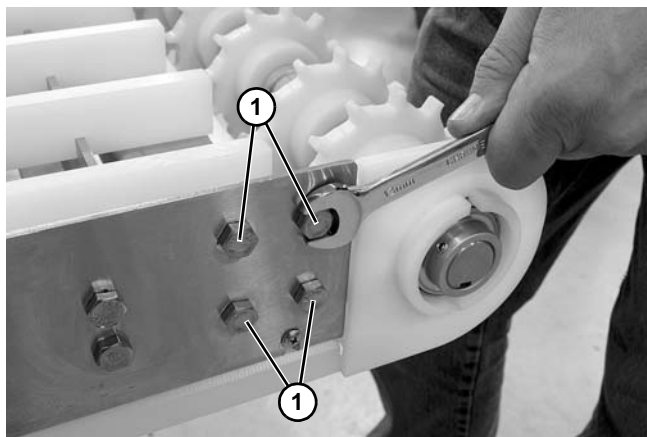

Figure 51
4. Remove the four headplate screws (**Figure 51, item 1**) on both sides of the conveyor.